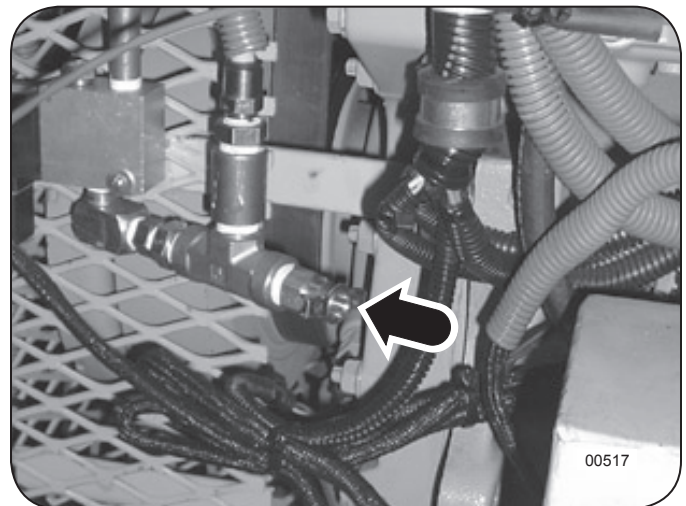

Figure 16: Turbo Boost Release Valve
In the standard configurations the front and rear wheel drive motors are different internally. There is a serial number plate attached to the underside of each motor for which identifies the motor displacement value. See Figure 16.
2. Release turbo boost pressure in the hydraulic tank at the turbo boost release valve. See Figure 16.